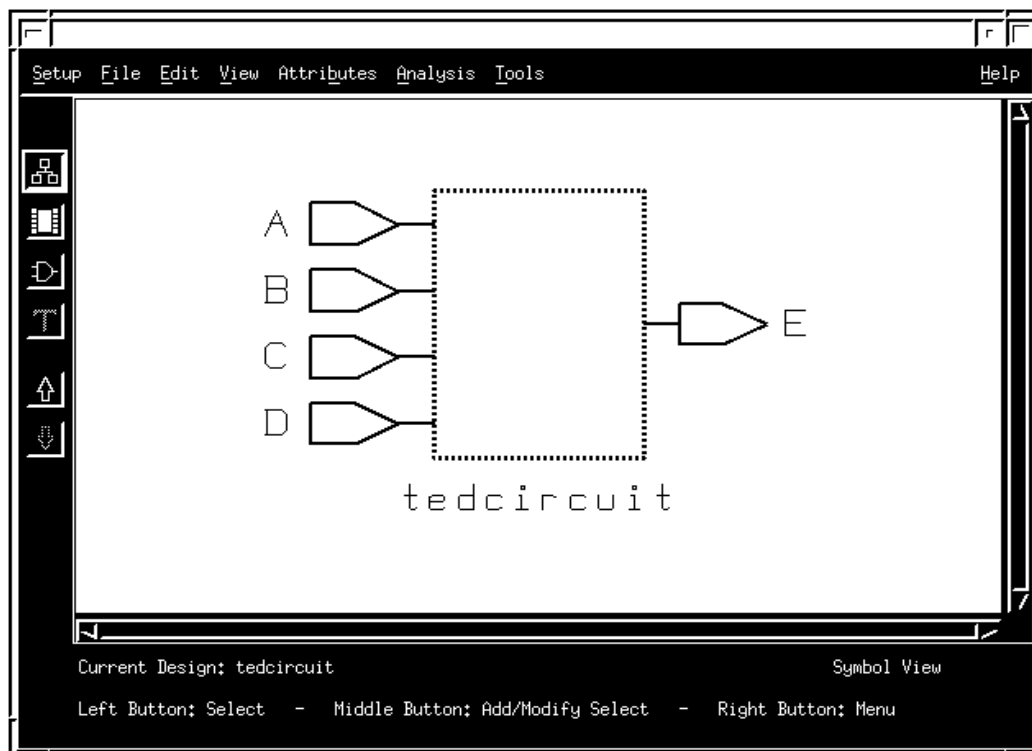

Figure 12: Design Analyzer window with symbol view of entity `tedcircuit`.
(5) The central portion of the Design Analyzer window will now contain three yellow squares. These icons correspond to the entities which were analyzed. Use the left mouse button to click on the icon labelled `tedcircuit.vhd`. It will now be outlined with a dashed line. Select the down arrow button located on the bottom left hand side of the window; a new icon will appear in the central portion. There are four input ports labelled A, B, C, and D on the left hand side and a single output port labelled E. This represents the *symbol view* of the entity `tedcircuit`. (See Figure 12)